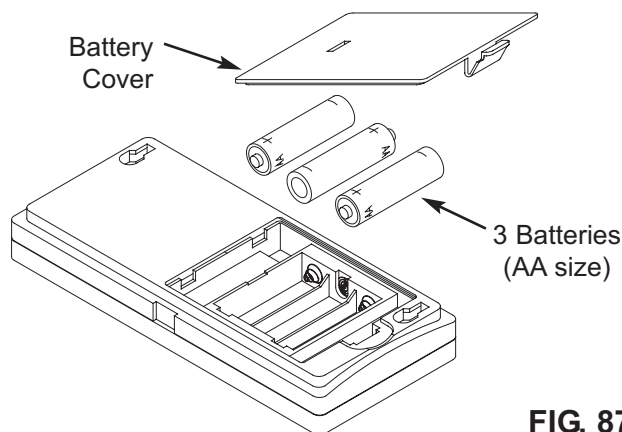

FIG. 87
2. Install three (3) AA size batteries, making sure that they are oriented to match the + and – markings inside the battery compartment (See Figure 87).